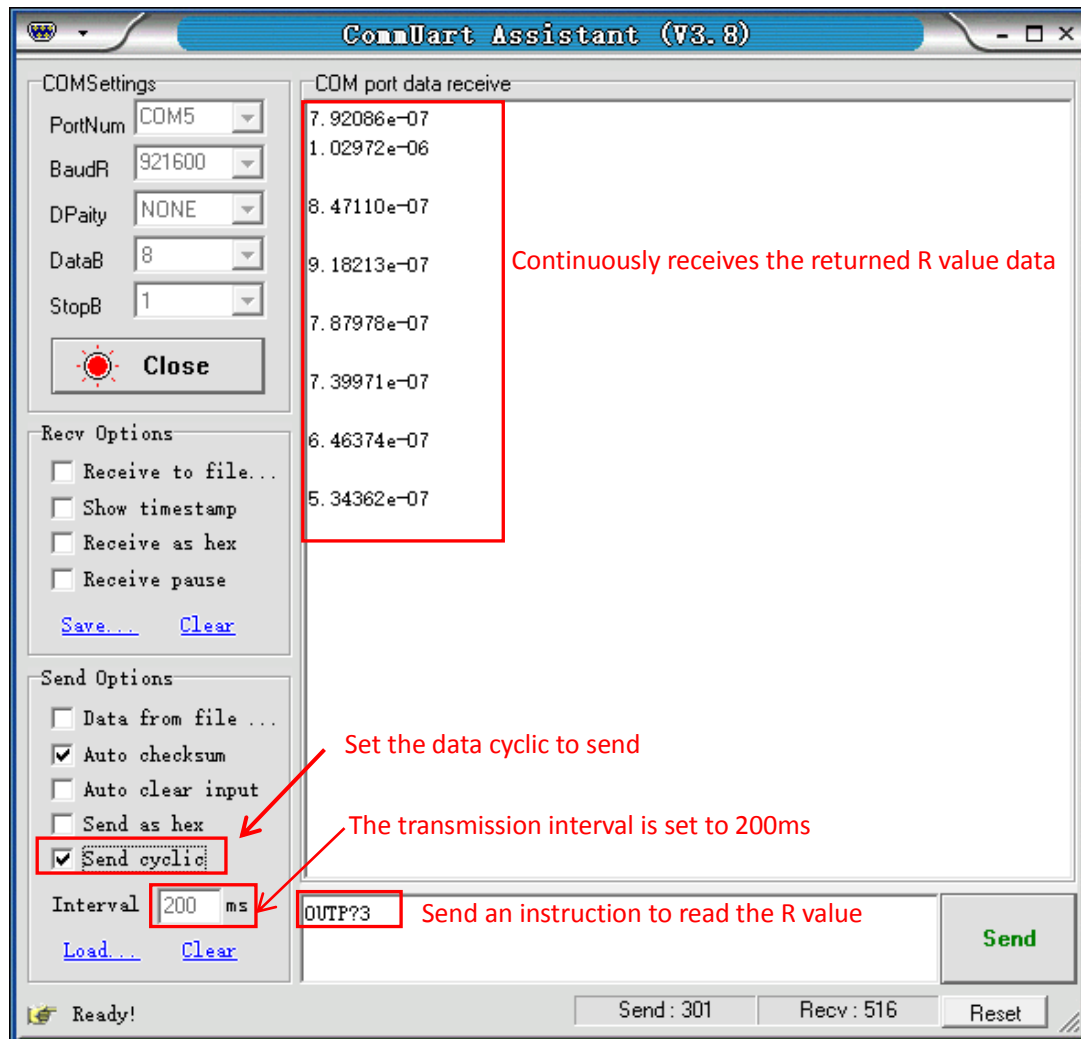

Fig.79 Read the single R value continuously
4) If you want to read <X>, <Y>, <R>, < $\theta$ > and Freq continuously, you can set the transfer pause time as Fig.79.